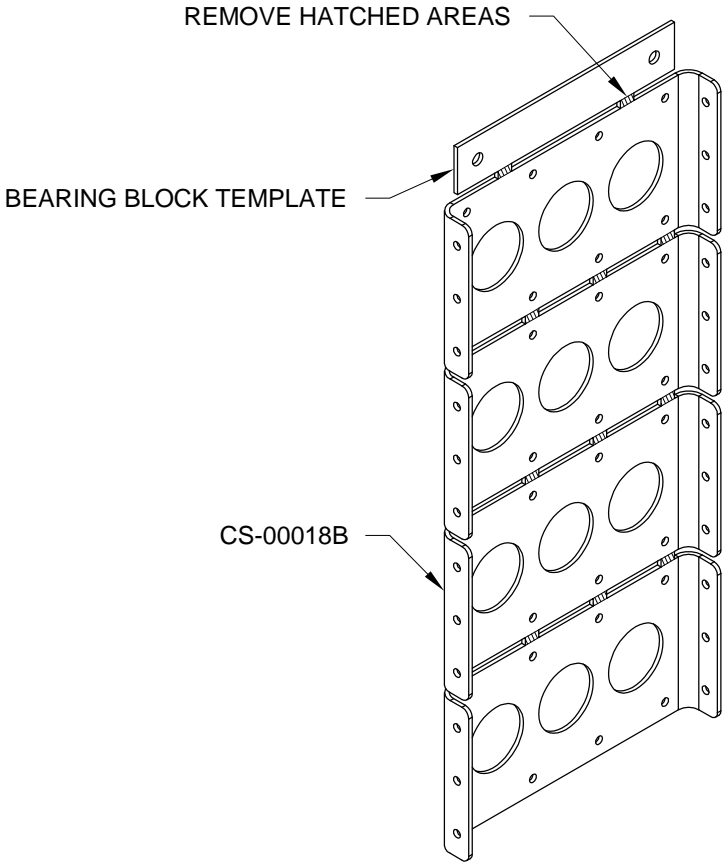

FIGURE 2: BRAKE PEDAL C-CHANNELS
Step 2: Separate the four CS-00018B Brake Pedal C-Channels and Bearing Block Template as shown in Figure 2.